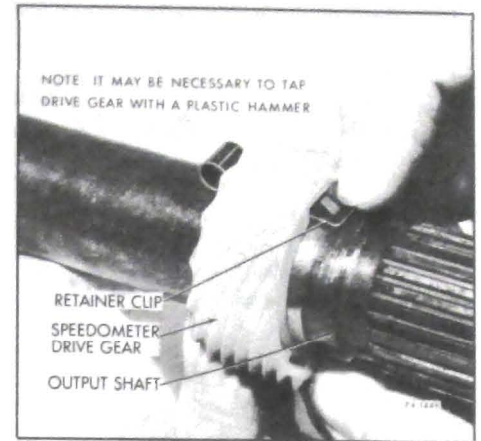

Figure 72-13 - Removing Speedometer Drive Gear
4. Remove speedometer drive gear. See Figure 72-13. Depress retainer clip, then slide speedometer gear off output shaft.